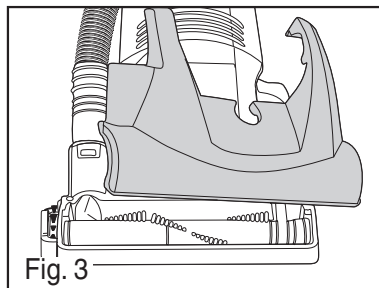

Fig. 3
3) Lift and remove brush roll cover (Fig. 3).
- 3) Hose connector – twist hose from connector. Remove blockage and replace hose. For better access, unclip sides and clear blockage. Clip back into place and reconnect hose at both ends (Fig 3).